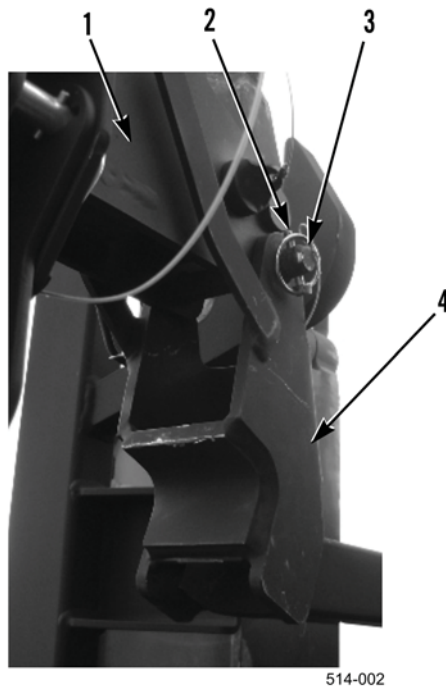

Figure 43. Bail Bar Stowed on Lift Frame.
12. Install bail bar lock (Figure 43, Item 4), and locking bar (Figure 43, Item 3) on lift frame (Figure 43, Item 1).
13. Install snap pin (Figure 43, Item 2) in locking bar (Figure 43, Item 3).